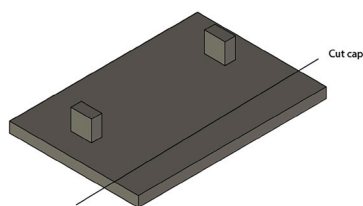
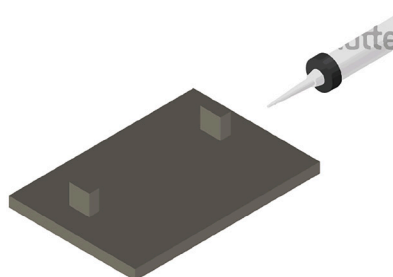
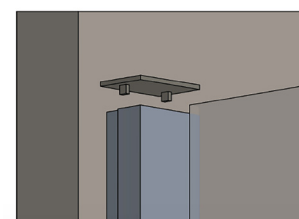

FIGURE 14C
FIGURE 14D
FIGURE 14E
Cut cap on marking using scissors. (See Figure 14C). Place drop of silicone on the outside of both legs. (See Figure 14D). Turn the Adjustable Post Cap (J) around and install with the legs going into the Wall Jamb (A). (See Figure 14E). Remove spacer and clean up any excess silicone.